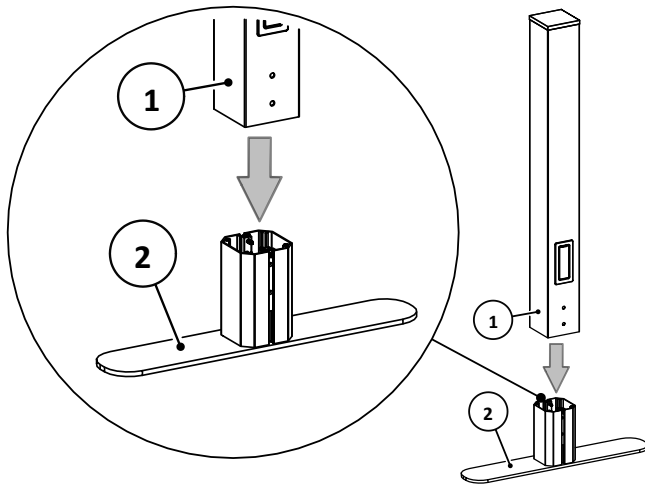

Figure 1
STEP 1: Align the holes in the foot (2) with the holes in the post (1), as shown in Figure 1.